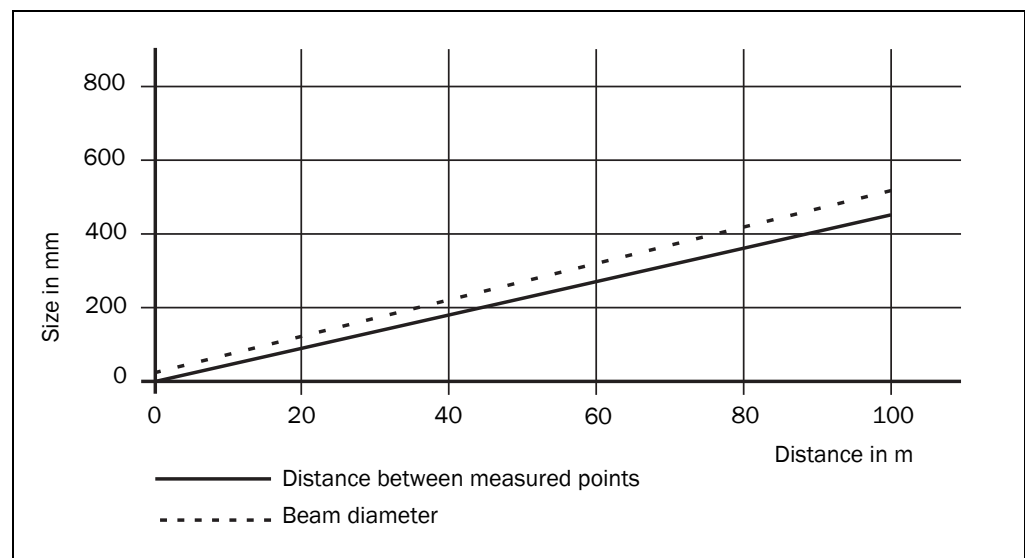

Fig. 8: Beam diameter and distance between measured points at 0 to 100 m
With increasing distance from the NAV350 the spacing between the individual measured points also increases. The diagram in fig. 8 shows the beam diameter and the distance between measured points as a function of the distance from the NAV350.
- For beam diameter and distance between measured points as a function of the distance from the NAV350 see the diagram in fig. 8.